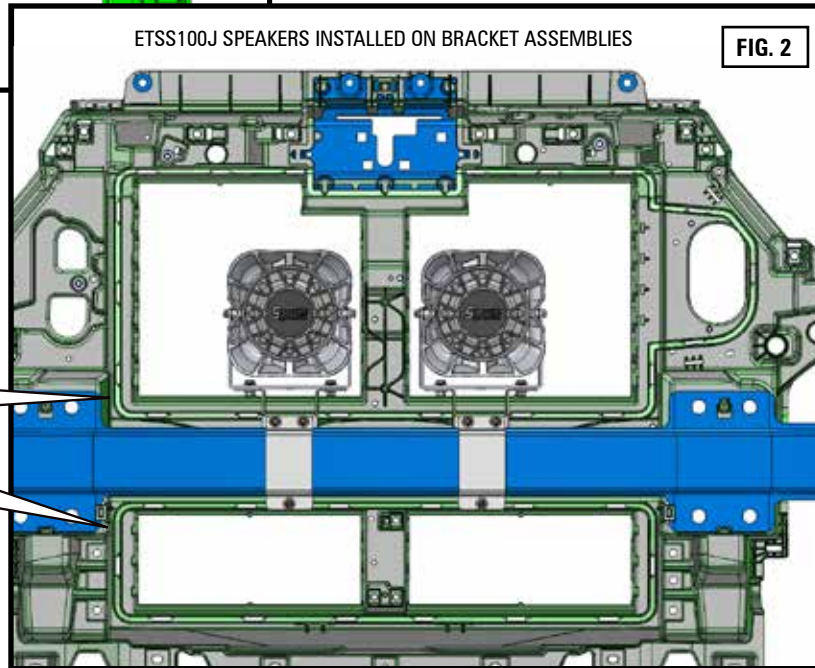

FIG. 2
6. Attach speaker (ETSS100N, ETSS100J or ETSS100U) to speaker bail bracket using hardware supplied with the speaker, as shown in Fig. 2.